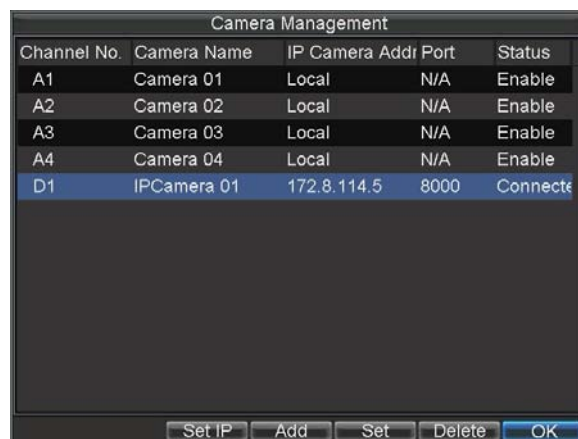

Figure15. Camera Management Menu
1. Click Menu > Settings > Camera Management menu, shown in Figure 15.